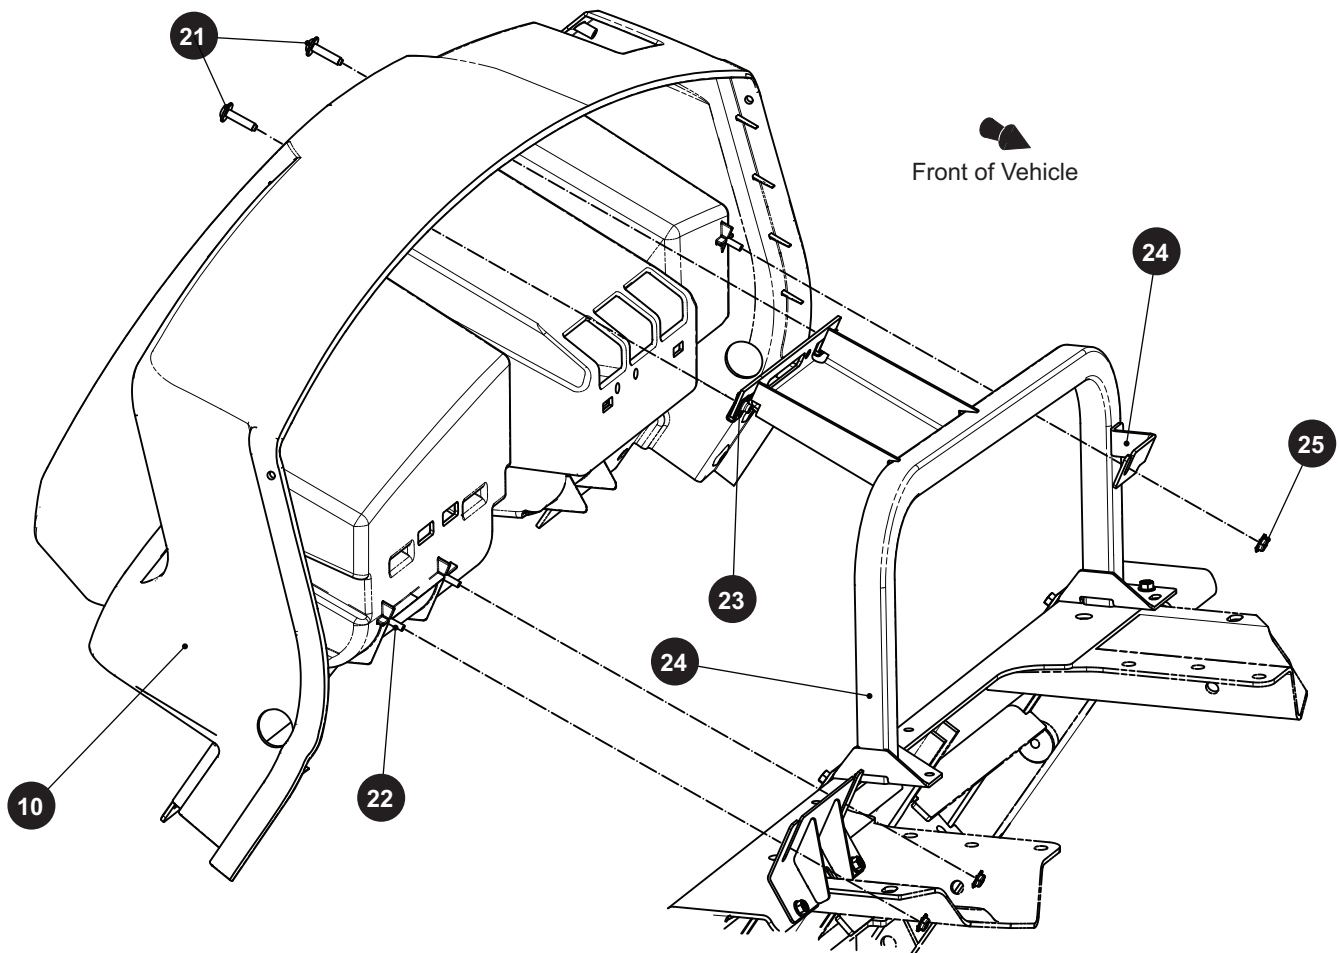

Fig. 8 Instrument Panel (Rear)
6. Remove the self threading nuts (25) that attach the instrument panel to the support (24).
7. Remove the two bolts (21) that attach the instrument panel (10) to the support (24) (Ref. Fig. 8).